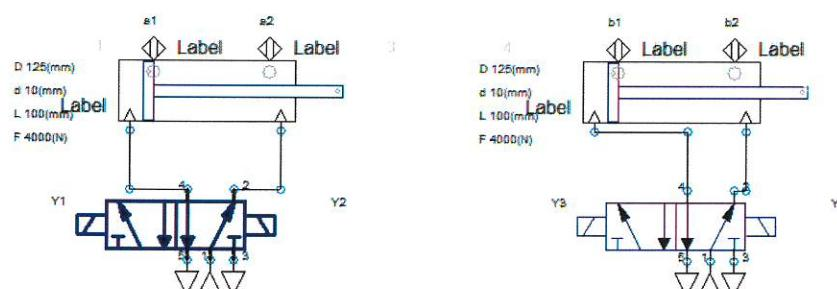

Figure 2 / Rajah 2
- (c) Given a pneumatic circuit as in Figure 2, propose an electric circuit for electro-pneumatics based on sequence A+ B+ B- A-.